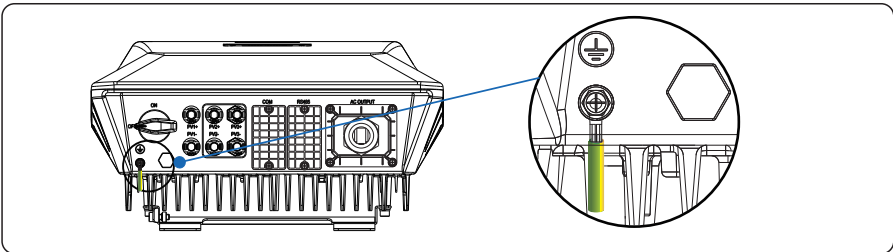

Figure 5.3 Securing the PGND cable
**Step 3** Secure the PGND cable (done by step 1 & 2) using the ground bolts and tighten the bolts to a torque of 1.2 N·m using a socket wrench. Ensure that the PE wire is grounding well and impedance between earth wire and neutral wire is no more than 10 Ω, as shown in Figure 5.3.